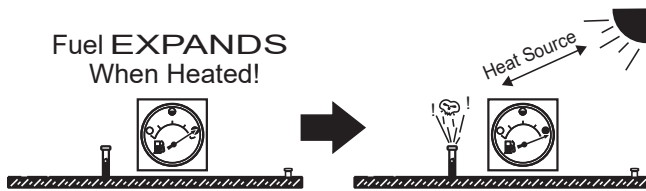

Figure 35. Fuel Expansion
**DO NOT OVERFILL** the fuel system. Leave room for fuel expansion. Fuel expands when heated (Figure 35).